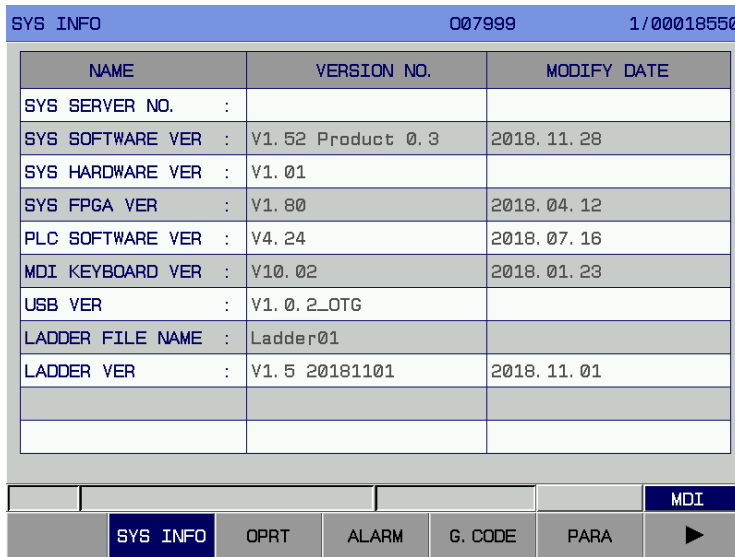

Fig. 3-9-1
Press the **HELP** key to enter the help display page including eight display interfaces: [System information] [Operation table] [Alarm table] [G Code table] [Parameter table] [Macro command] [PLC.AD] and [Calculator], which can be viewed through correspondingly soft keys. The specific display is shown in Fig. 3-9-1 to Fig. 3-9-12.
1. For the system information interface, press the [System information] soft key on the <Help> interface to enter the system information interface, as shown in Fig. 3-9-1.